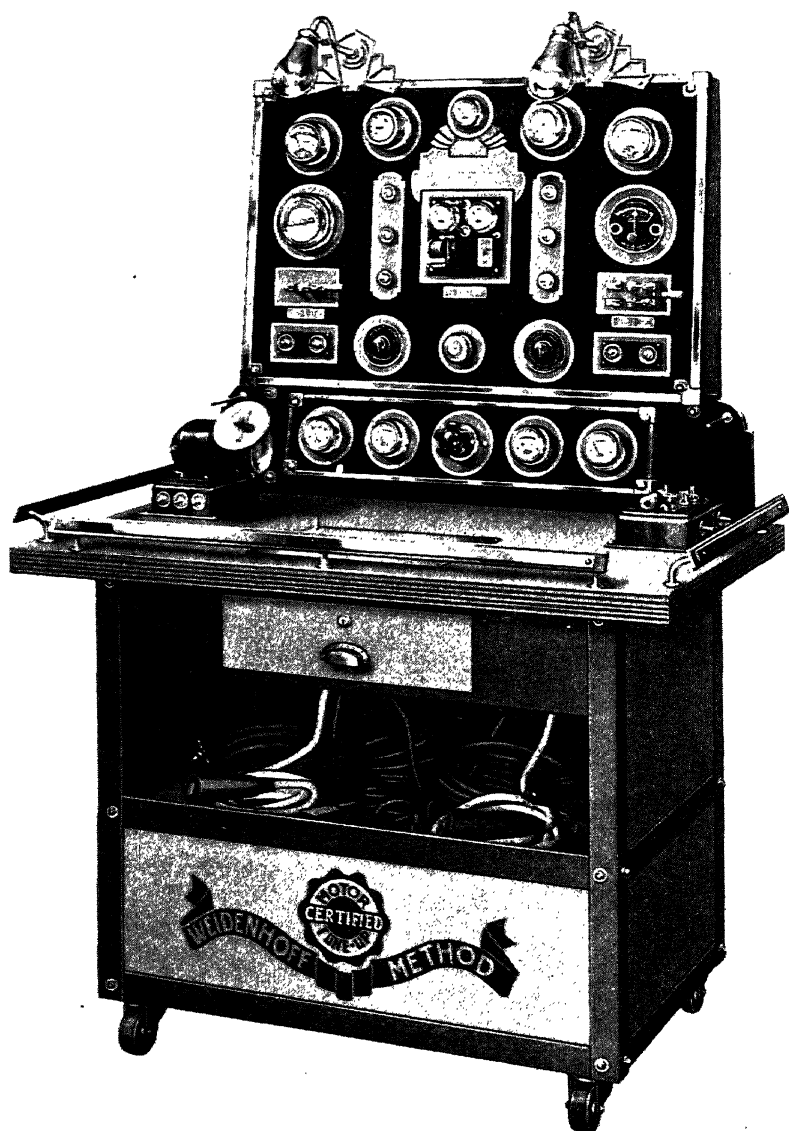
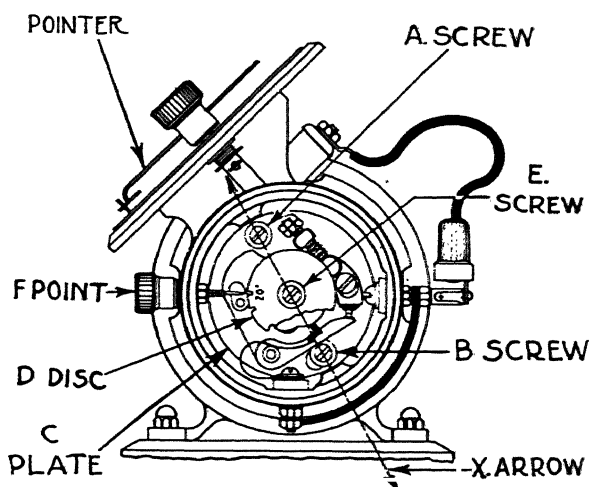

Fig. 1. Motor Analyzer
Fig. 5. The Breaker Motor Adjustment Diagram
The purpose of the equipment which is designed to make a complete analysis of the operating condition of an engine, and the accessories with which engines are equipped, is to eliminate the guesswork from trouble finding. The development of test equipment such as is necessary for this work, is one which covers a period of many years. The student-mechanic who has mastered the contents of the earlier sections of these volumes, is in a position to profit by making a most careful study of the operation of the motor analysis and tune-up equipment. Specialized units of testing equipment which are used on the test panel of the motor analyzer and tune-up equipment, illustrated in Fig. 1, have been developed with specific ends in view. Indications of the instruments in use for the tests being made are of such nature as to show (not only to the operator using the equipment but to the customer who owns the car) definite reactions which fix in the mind of the customer the fact that the motor is or is not right.
**Tune-Up Test Equipment.** The equipment used for motor analysis and tune-up work is usually built up in an attractive panel and work bench style such as is illustrated in Fig. 1. If the equipment is mounted on a portable work bench the bench with all leads and so forth may be moved close to the car to be analyzed. In the main the equipment consists of voltmeters, ammeters, vacuum gauges, switches, electrical motor, electrical leads and other instruments designed to make and record the result of the tests being made.
**Inspection and Adjustment of the Breaker Motor.** The small motor on the left-hand side of the test equipment, shown in Fig. 1, is illustrated in diagrammatical form in Fig. 5. First set the pointer to 20 degrees, loosen the screws A and B and adjust the plate C in the direction of the arrows so that the points remain closed during 20 degree travel of the cam, as marked on the disc D, Fig. 5. If the disc
The carbon-pile control knob is located directly in the center of the sub-panel, Fig. 1. To the right you will note two voltmeters and to the left a voltmeter and ammeter. Before proceeding with the test be sure that carbon-pile control knob is turned to the left until the knob is free. Leave the voltmeter heads hooked to the battery as in open voltage test: Hook up large white (500-amp.) leads to battery, connecting insulated terminal clip to negative post. Connect other terminal clip to positive post. After determining what the ampere-hour capacity should be (refer to electrician's manual) refer to the following chart to determine ampere loads to be applied to battery for 20 seconds, and what the resultant voltage readings should be if battery is of sufficient capacity, as determined by car manufacturers.